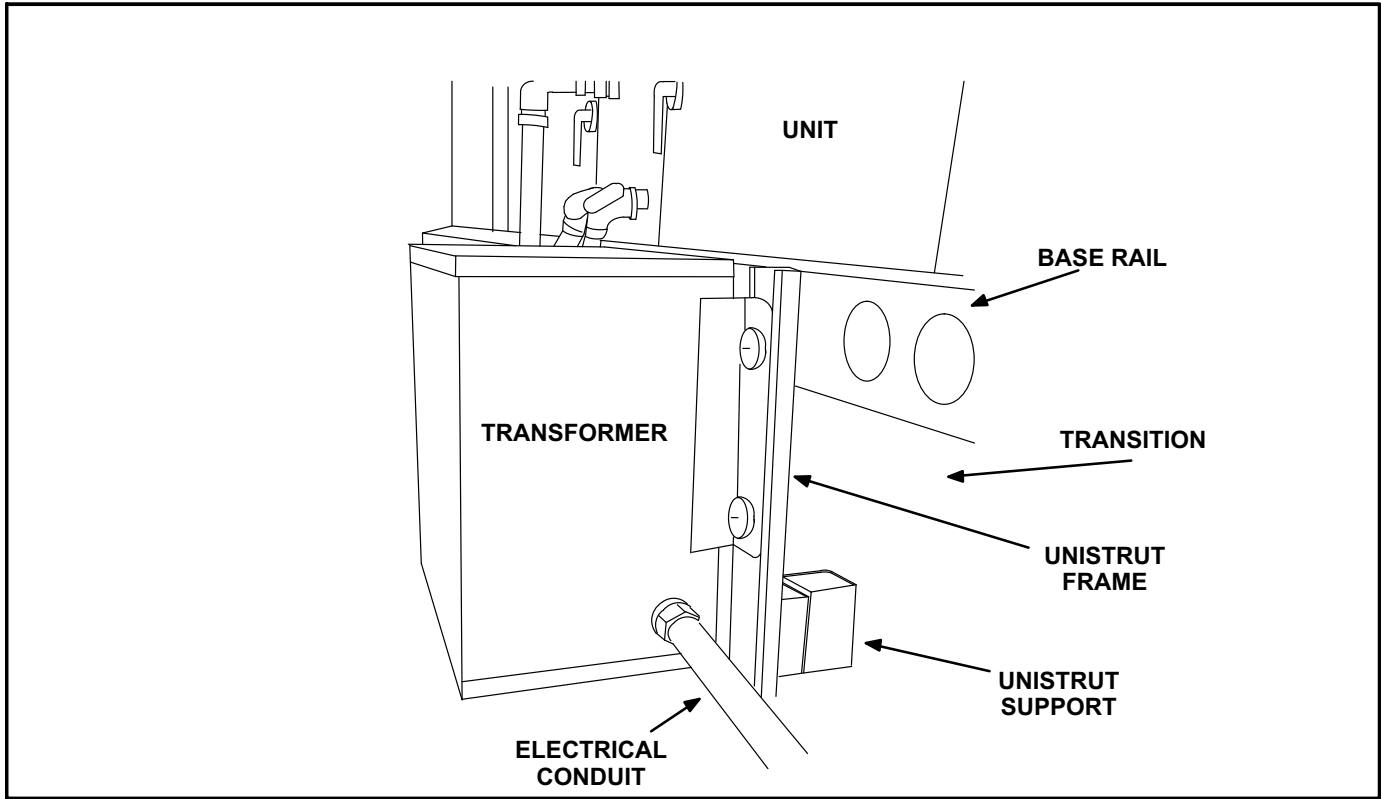

FIGURE 1
- When a step-up transformer and transition are installed, make sure the transformer is secured upright. Use a support at the bottom of the transformer as shown in figure 1.